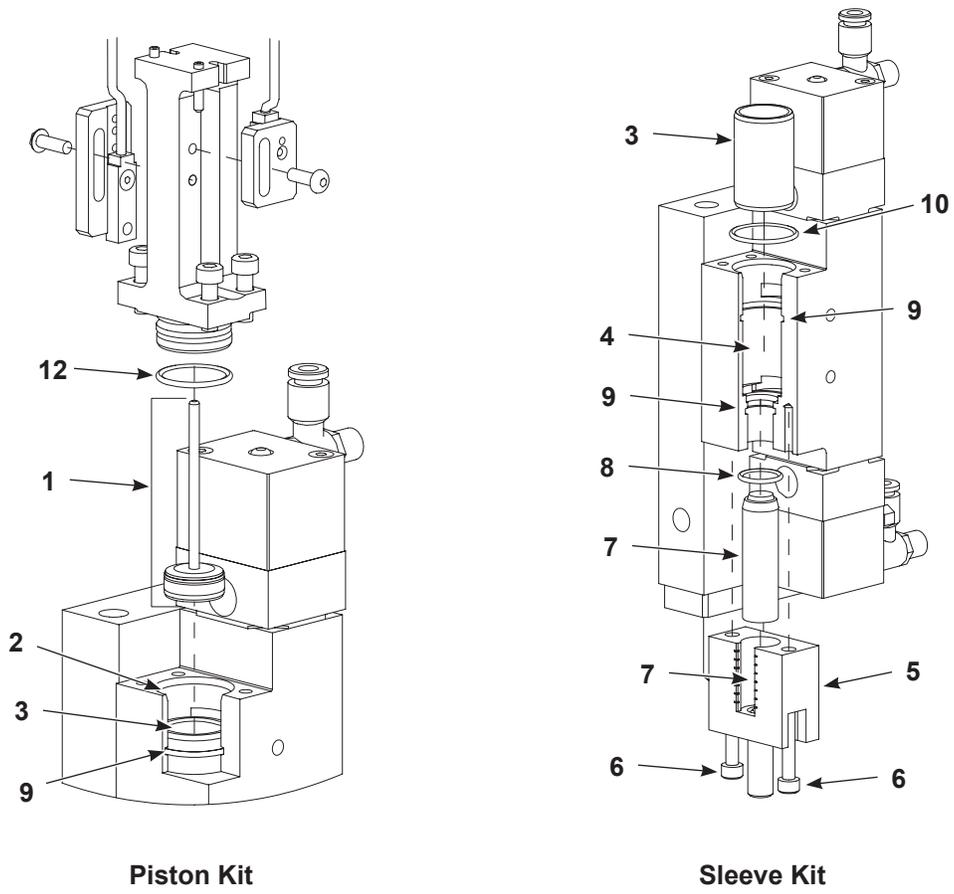

Figure 9 Piston and Sleeve Kits
**NOTE:** The metering piston includes items 1 and 12. The piston sleeve includes items 3, 8, 10, and 12. The metering plug includes items 7 and 8. Items are shown in Figure 9.
2. Grab the piston rod (1) and pull metering piston straight out of the dispense gun.
3. Wipe any material from the piston chamber (2) and clean the sleeve bore (3) to permit inspection of the bore condition.
4. If the bore (3) is badly scored, replace. If not, proceed to step 12.
5. Remove the adjuster cap (5) by removing two screws (6).
6. Remove the metering plug (7) by pushing out from the piston out the bottom.
7. Remove the piston sleeve (3) by performing all steps of the *Piston Sleeve* procedure on page 24.
8. Clean the bore (4) and the O-ring grooves (9).
9. Lubricate the bore (4) and O-ring grooves (9) using TFE grease.
10. Install the O-rings (8, 10), the new piston sleeve, and the metering plug (7).